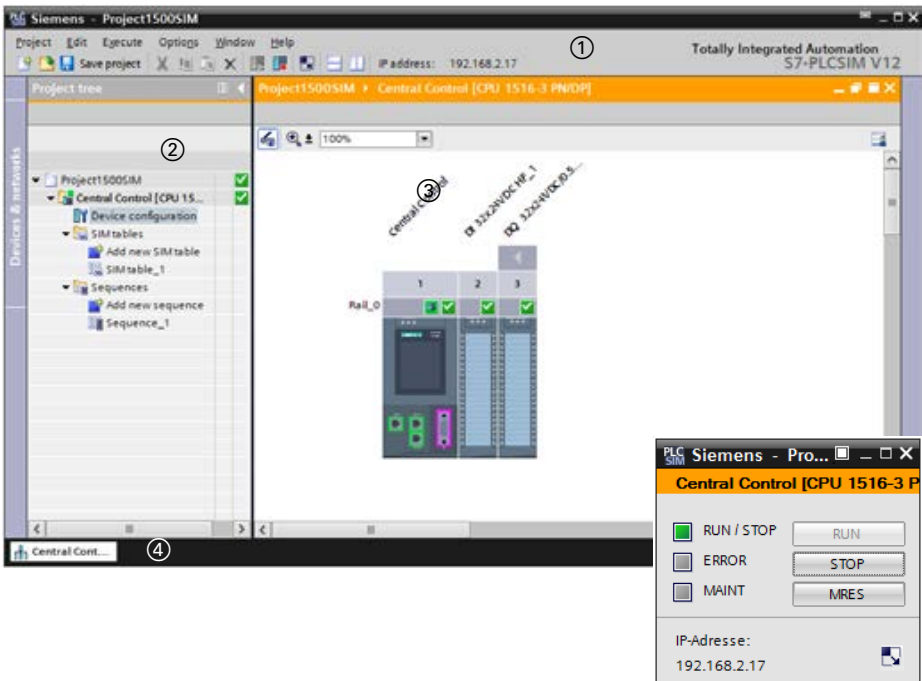

Fig. 18.20 Project window of the PLCSIM simulation software and compact view
Fig. 18.20 shows the PLCSIM user interface. ① At the top you will find the main menu and the toolbar with the icons for frequently used commands and the specified IP address of the simulated PLC station. ② On the left side, the project tree win-